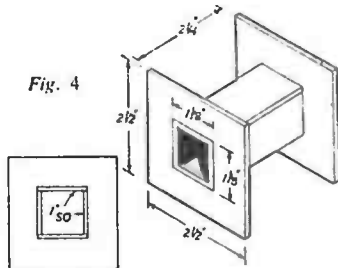

Fig. 4
Frequently a drive consists of two or more sets of gearing. When this is so, each pair of meshing gears should be considered separately, the ratio found, and the ratios then multiplied together (not added). Fig. 4 shows a 2-stage gear train, and will make this clear. Here, gear (A) drives gear (B). Gears (B) and (C) are fixed on a common axle, and gear (C) drives gear (D).